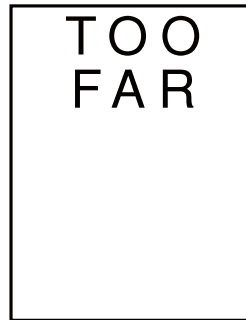

Fig.16
- (5) If the aircraft stops at a position beyond the correct stopping position, a message "TOO FAR" will be displayed on the screen. (Fig.16)